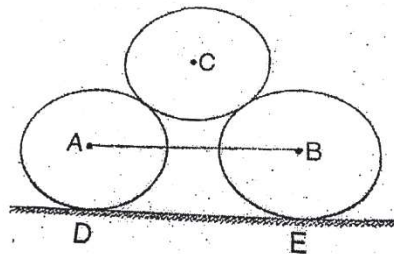

Figure 1.4
10. Two smooth circular cylinders each of weight 100 N and radius 15 cm are connected at their centres by a string AB of length 40 cm and rest upon a horizontal plane as shown in Figure 1.4. The cylinder above them has a weight of 200 N and a radius of 15 cm. Find the force in the string AB and the reactions at points D and E.